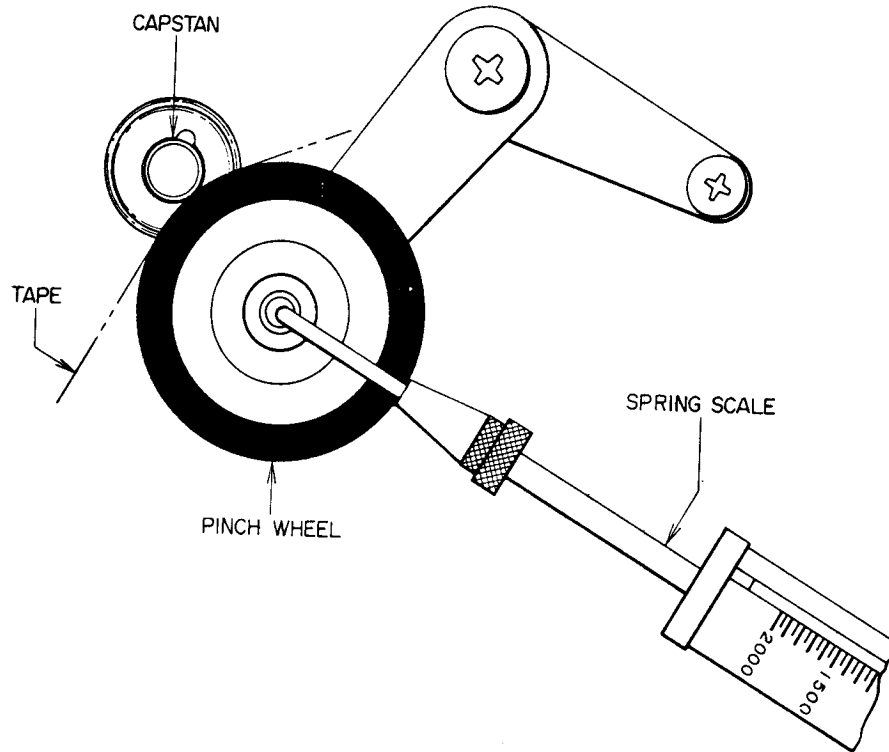

Fig. 9
1. PINCH WHEEL PRESSURE MEASUREMENT (See Fig. 9)